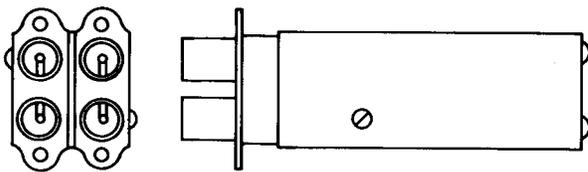

Fig. 6—556-Type Jack
2.06 556A, B, C, D, E and F: These are twin coaxial-type jacks (Fig. 6).